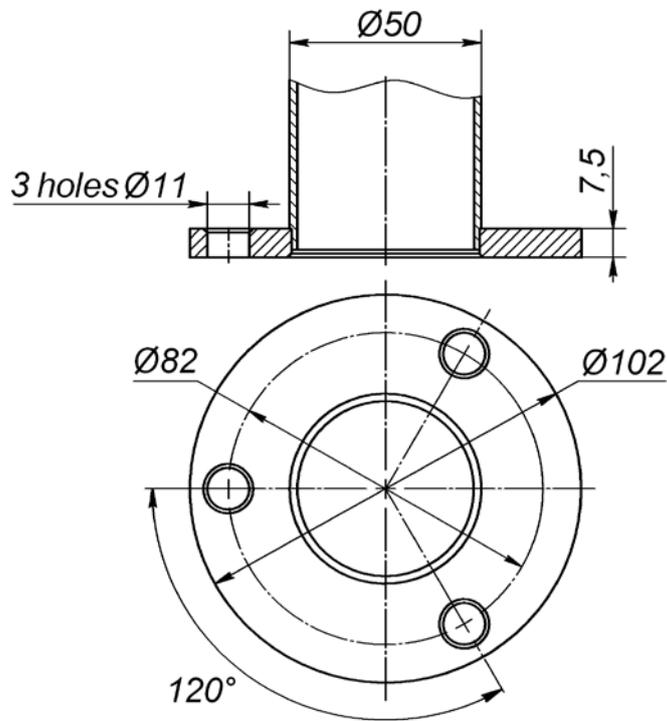
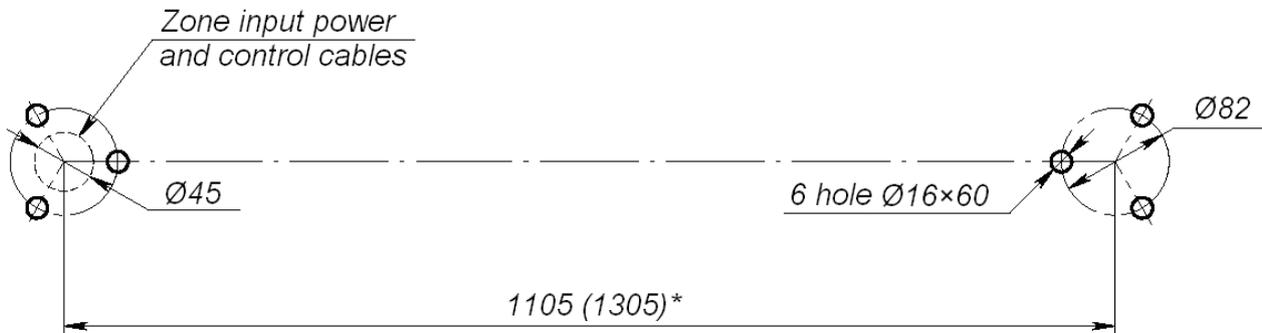

Figure 11 – Location of holes for anchor bolts in the flanges
Figure 13 – Holes for anchor bolts in flanges of rotary railing section posts
3. Put the first post in the required place so that coupling fittings location would correspond with the required rails position. Mark out three installation holes for anchor bolts through the holes in the flange (see Figure 11). Put the post down.
2. Mark the points of flange fastening of vertical and support posts as depicted on Figure 11 and Figure 13 – each of two groups consisting of three $\text{Ø}16 \times 60$ holes for M10 anchors.
1. Mark out the centers of railing posts. Provide following distance between posts - 1105±2 mm (for 1 m railing section) and 1305±2 mm (for 1.2 m railing section) in order to secure normal operation of electromagnetic BD (see Figure 13 and Table 4).
2. Mark fixing points of post flanges of railing sections, as depicted on Figure 11 and Figure 13 – three Ø16×60 holes (M10 anchors) for each of two posts.
3. Prepare cable duct in the floor for power cable and control cable (see Figure 13).